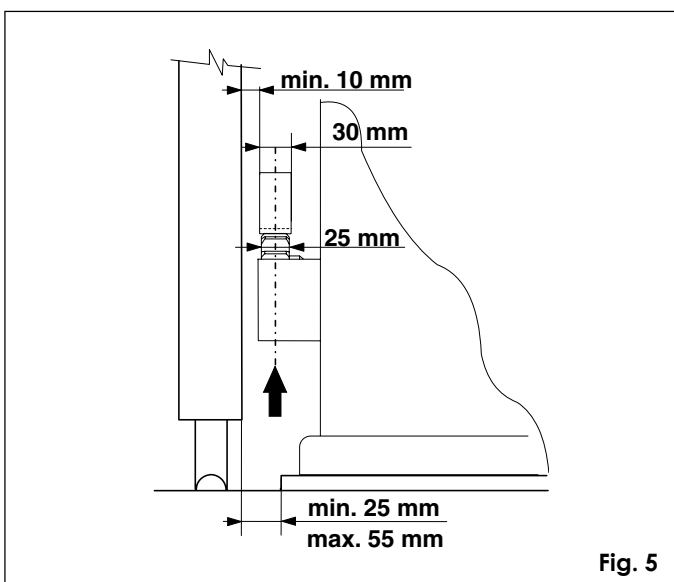
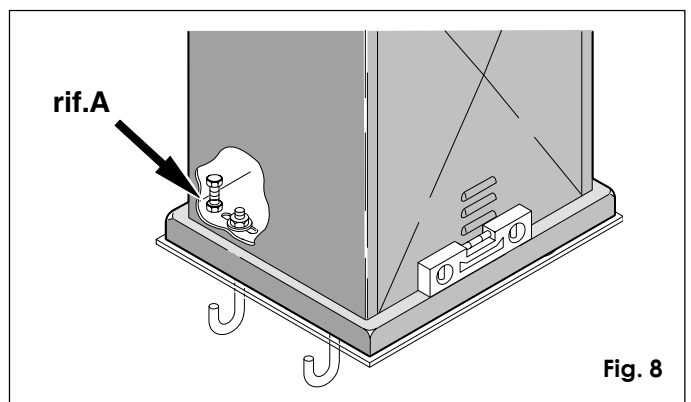
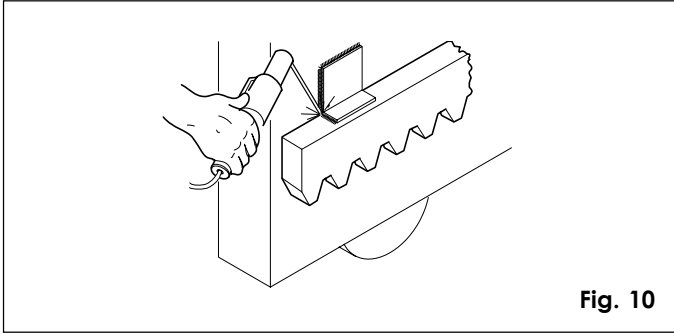

Fig. 5
Fig. 8
Fig. 10
For the positioning distances refer to fig. 5.
- 2) Adjust the height of the feet as shown in A, fig. 8 while keeping the gear motor raised from the plate by 1 cm and maintaining the distance from the gate shown in fig. 5.
- 3) Use a level to check that the operator is perfectly horizontal as shown in fig. 8.
Important: To mount the rack on the leaf it is necessary to construct special supports specifically for the type of gate. Fig. 10 shows an example of "L" support. For positioning the supports refer to figs. 5 and 9.
After installing the rack, lower the position of the gear motor by about 4 mm (fig. 12) by adjusting the level screws (A, Fig. 8) to ensure correct meshing with the pinion.